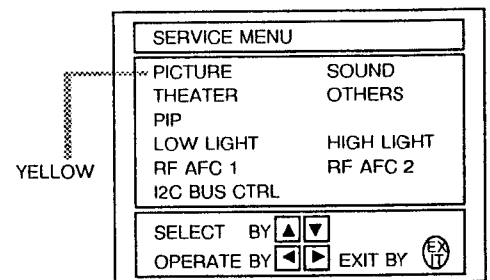

Fig. 1 SERVICE MENU
- 1) Press the DISPLAY KEY and VIDEO STATUS KEY of the REMOTE CONTROL UNIT at the same time to display the SERVICE MENU screen shown in Fig.1.
- (2) SERVICE MENU screen selection